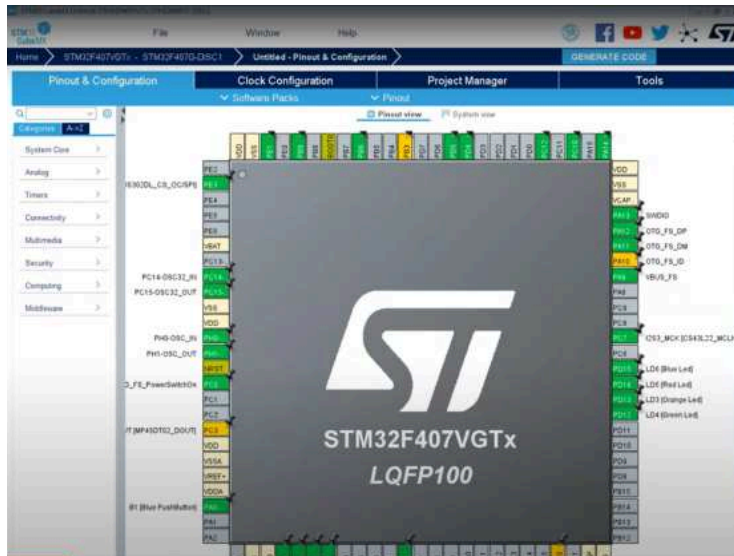

Figure 8
5. You will see a screen like in Figure 8. You can see the schematic of the microcontroller you will use here. You can use it this way. However, in terms of power consumption and more stable operation, it will be better if you turn off the pins that you will not use in the lab. The green ones show the open pins and the gray ones show the reset state ones. In this lab, you will basically use push pull buttons and leds. So you can turn off the others. Which of these pins are can be understood by looking at the user manual. You should not close the pins that provide the connection between the microcontroller and the programmer. You can check which of these pins are in the user manual (Figure 9). You can close and define tasks of a pin by left-clicking on the pin. You completed the Pinout Configuration.
It is very easy to use the ST-LINK/V2 (or V2-A) to program the STM32 on an external application. Simply remove the two jumpers from CN3, as shown in Figure 8, and connect the application to the CN2 debug connector according to Table 4.